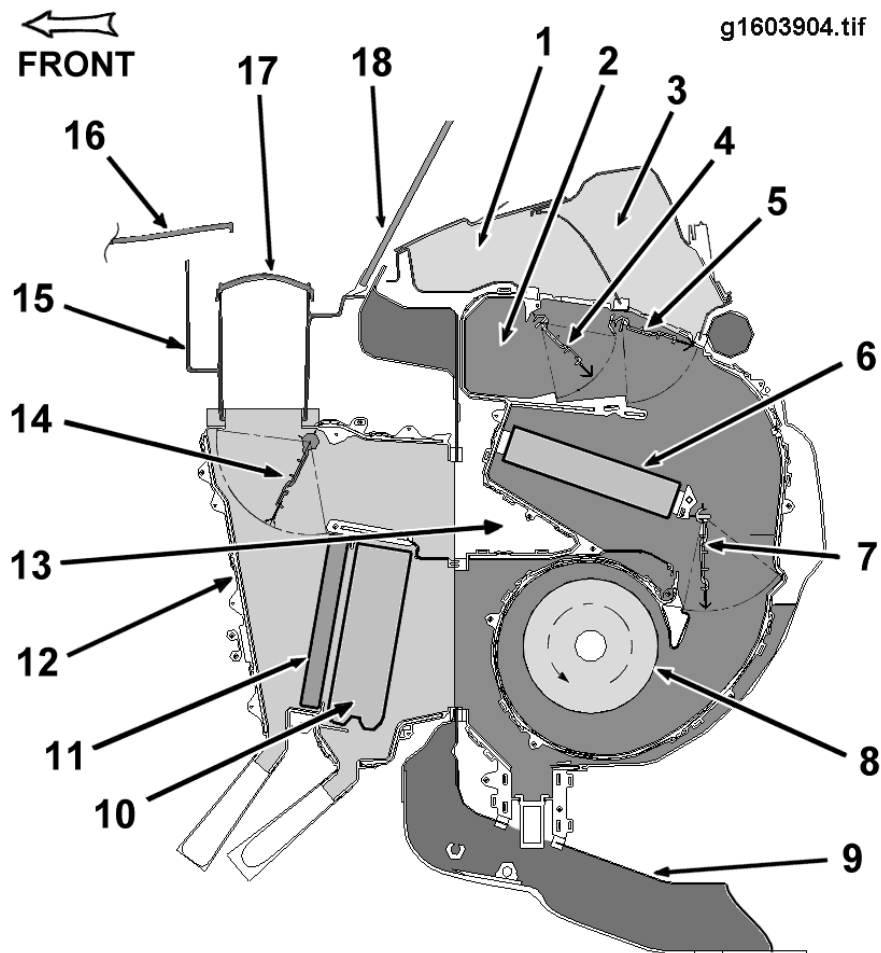

Figure 4 Cross-Section of HVAC Air Handling Components – Front HVAC System
The following figure (Figure 4) is a cross-sectional view of the air-handling components of the front HVAC system, as they are mounted in the vehicle. The figure shows the system's four air doors and indicates their range of travel.
The electrically actuated fresh/recirculate air door (14, Figure 4) is located in the evaporator housing (12), and is controlled by the mode control (right knob) on the HVAC control panel. When the door is in the recirculate position, outside air is blocked by the door. Recirculation air, from the cab, enters the upper rear of the evaporator housing through the upper portion of the dash panel cutout (13). With the fresh/recirculate air door in the fresh air position, fresh outside air enters the top of the evaporator housing via an air duct which is part of the cowl drain tray (15). (The recirculate air is blocked by the fresh/recirculate air door.) In both cases the air is pulled by the blower assembly (8) through the evaporator core (10) to exit the evaporator housing through the lower portion of the dash panel cutout. The air entering the heater housing from the evaporator housing enters the dual inlet, single scroll blower assembly and is pushed through the heater housing.
The evaporator core (10, Figure 4) is located in the evaporator housing mounted on the engine side of the dash panel. The core is a cooling assembly made of tube and fin construction, with “C-plate” block-style inlet and outlet fittings. Drain valves for both condensate and rain water are incorporated into the bottom of the evaporator housing. Service access for the air filter is through the large fresh air inlet in the cowl tray and the top surface of the evaporator housing.